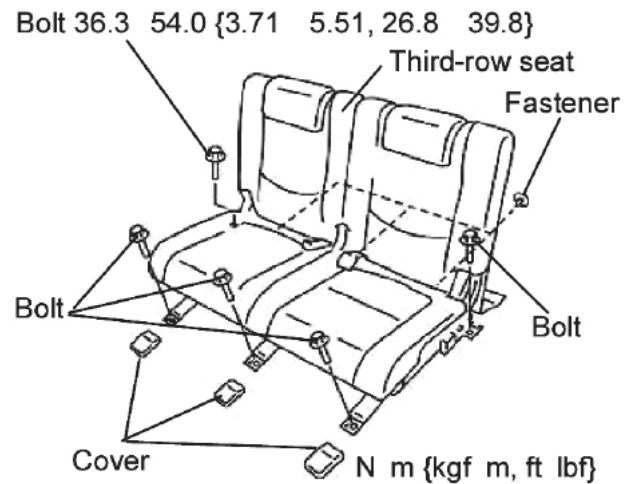

FIGURE 40
- 1.) REMOVE THE THREE FASTENERS. (SEE FIGURE 40)
- 2.) REMOVE THE THREE COVERS. (SEE FIGURE 40)
- 3.) REMOVE THE FIVE 14 MM BOLTS. (SEE FIGURE 40)
- 4.) REMOVE THE THIRD-ROW SEAT. (SEE FIGURE 40)